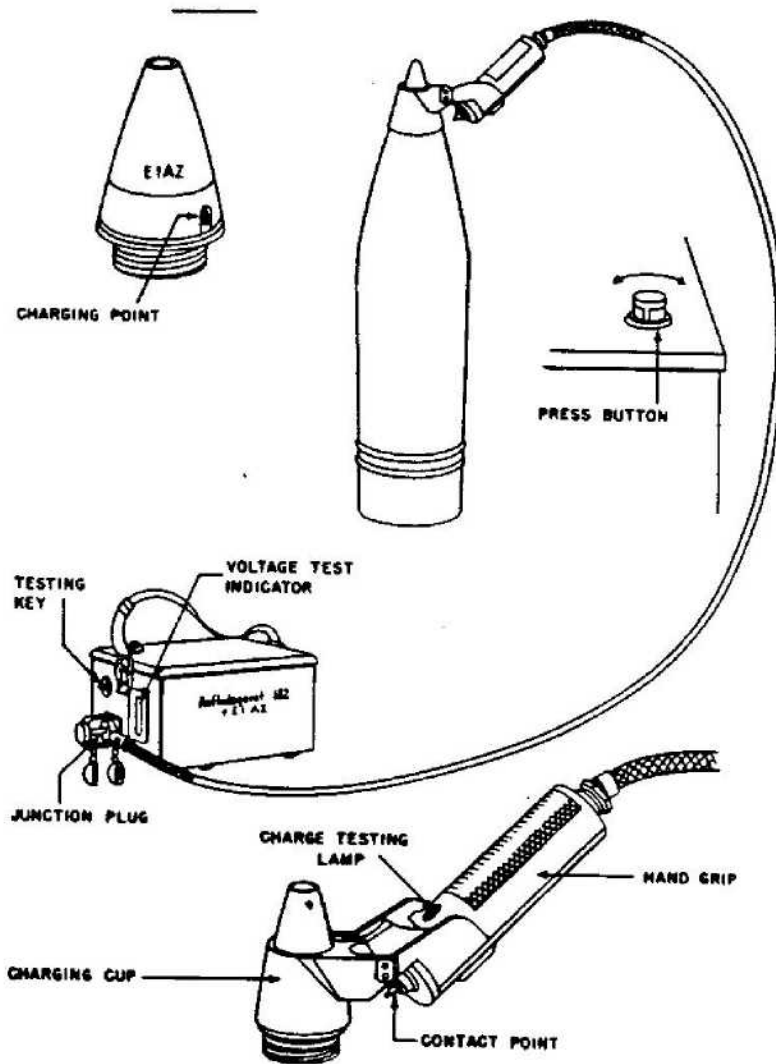

Figure 514—Rocket Assisted Projectile, 15-cm R. Granate 19
**GERMAN NOMENCLATURE:** 15-cm R. Granate 19. (See fig. 514.)